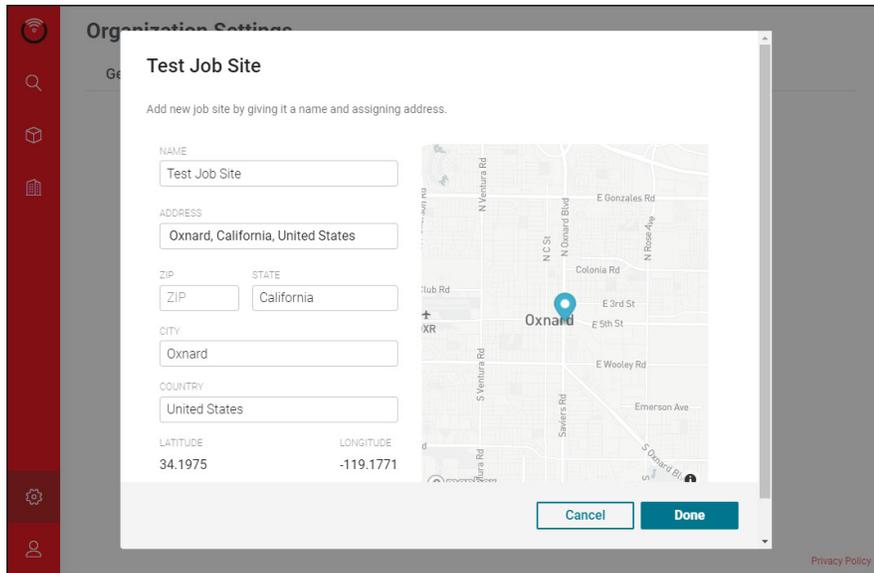

Figure 50. Done Button
- Enter the Job Site Name and Address and click “Done” button. See **Figure 50**.